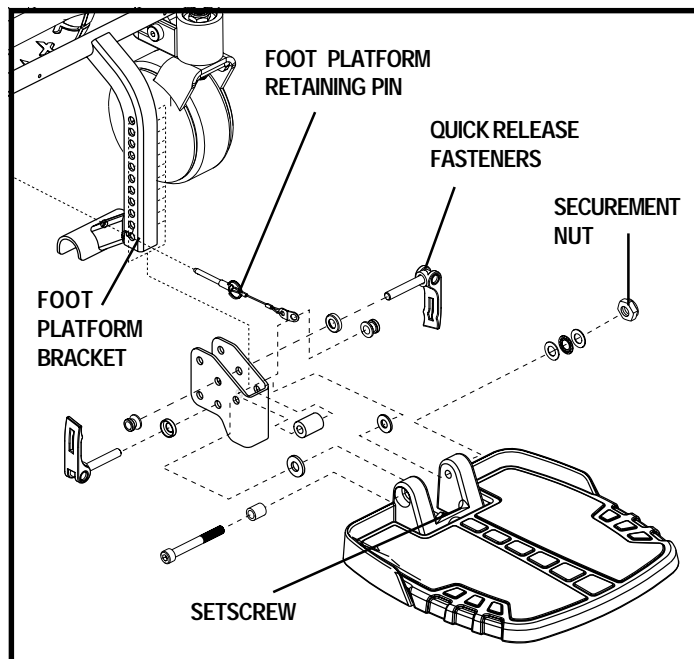
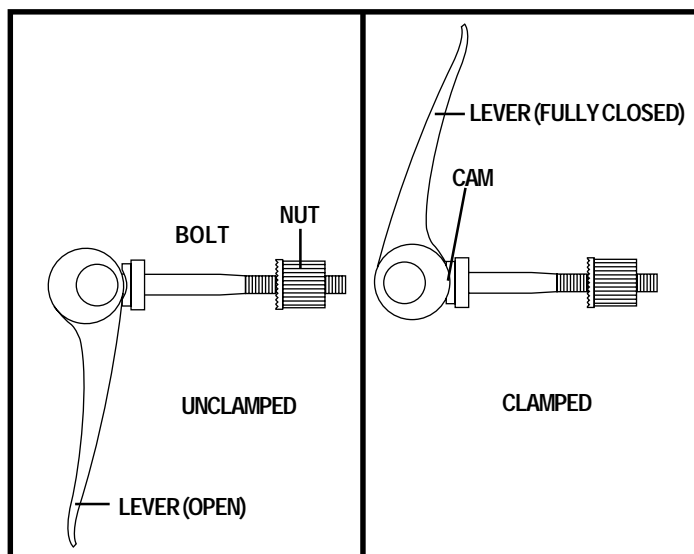

Figure 17. Foot Platform Adjustment
Figure 18. Quick Release Fastener Operation
1. Remove the quick release fasteners from the foot platform bracket. See figure 17.
Quick Release Fasteners: The foot platform is attached to the power base with two quick release fasteners. See figure 17. Each quick release fastener consists of a bolt, a lever, and a nut. See figure 18. The lever has a cam on the end that allows it to clamp into place. The quick release fastener has two states: clamped and unclamped. When the lever is open, the quick release fastener is unclamped. When the lever is closed, the quick release fastener is clamped.
You can adjust the angle of the foot platform with a hex key. See figure 17.